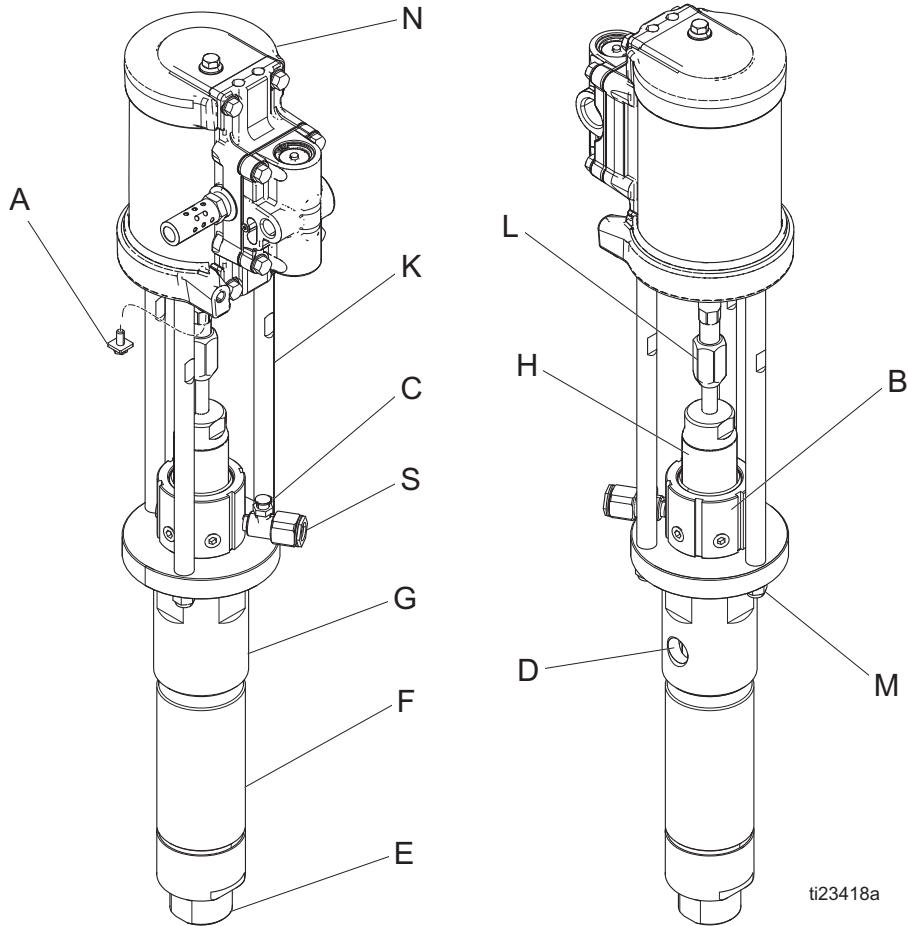

FIG. 1. Component Identification
4. Note the relative position of the pump fluid outlet (D) to the air motor air inlet. See FIG. 1, page 4.
3. Screw the tie rod nuts (4) onto the tie rods (3) loosely.
4. Install coupler nut and collars onto displacement rod. Hold the flats of the air motor position rod with a wrench. Use another wrench to tighten the coupling nut (9).
5. See FIG. 1, page 4. Apply thread sealant to the pump fluid outlet (D) and the threads of the fluid hose. Mount the pump and reconnect all hoses. Reconnect the ground wire if it was disconnected during repair. Torque the enclosed wet cup (B) to 60 ft-lb (81 N•m). Fill the wet cup fill port (C) with Graco TSL.
6. Tighten the tie rod nuts (4) evenly, and torque to 15-20 ft-lb (20-27 N•m).
8. Check for fluid leakage at the enclosed wet cup (B). Perform **Pressure Relief Procedure**, page 5.